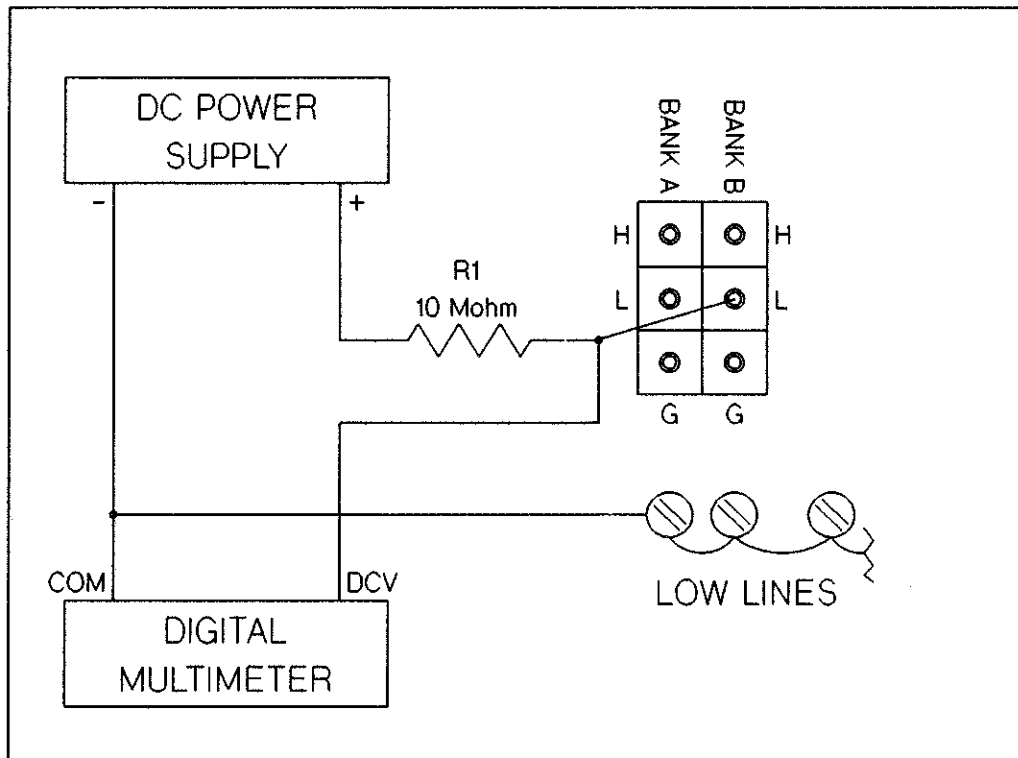

Figure 8-18 HP 44705A/H Bank B LOW to Common DC Isolation
17. Connect the test circuit between the Bank B LOW common test point and the shorted LOW lines of the test fixture as shown in Figure 8-18.